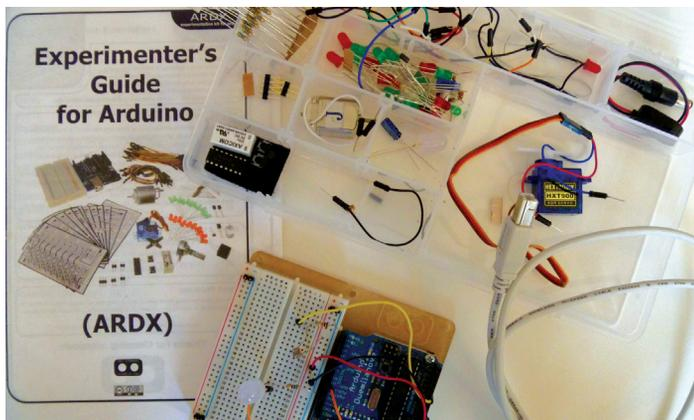

Figure 1: Kit of parts. Not all ingredients shown are used.
Step 1: Combine the Arduino board, wires, resistors, LED, and photo-resistor into a circuit (see Figures 1, 2, and 3). Using the Arduino IDE and USB cable, connect the circuit board to the computer. Add the Processing code sketch. The working circuit is done if waving your hand over the photo-resistor causes the LED to brighten and dim.